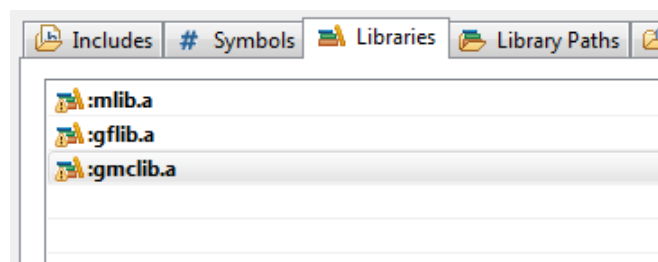

Figure 1-22. Libraries
11. After adding the library paths, add the library files. Click the Libraries tab. See Figure 1-22.
18. Click OK, and you will see the libraries added in the list. See Figure 1-22.